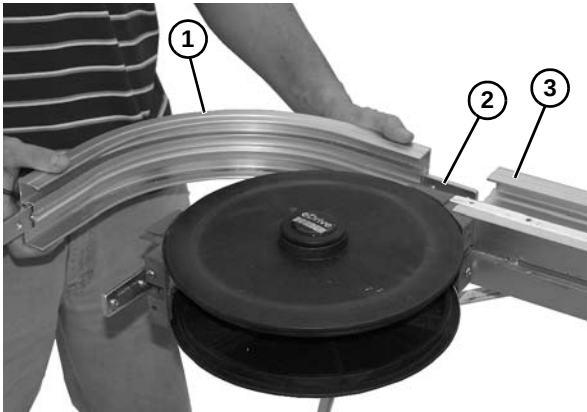

Figure 11
- Install outer curve frame assembly (**Figure 11, item 1**) clamp plate (**Figure 11, item 2**) into conveyor frame section (**Figure 11, item 3**) by lining up clamp plate with slot in conveyor frame.